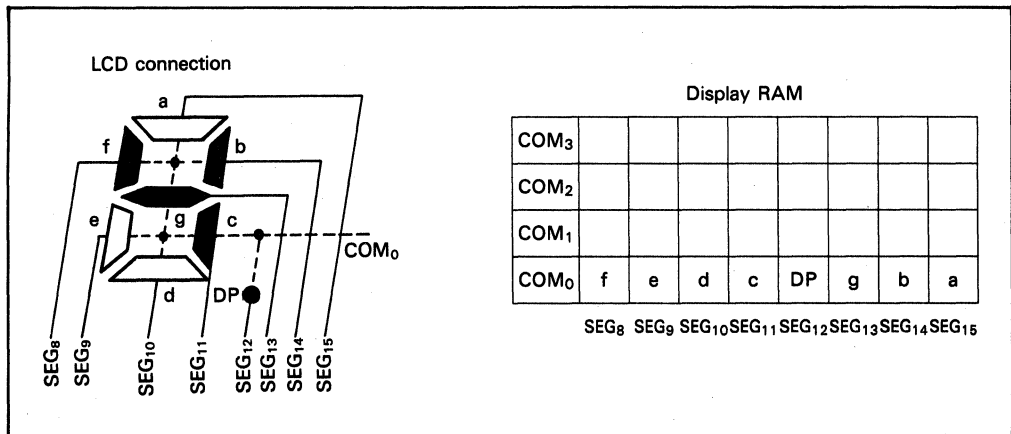

Figure 4 Example of Correspondence between LCD Connection and Display RAM (Static Drive, HD61604)
1. **Static Drive:** In static drive, only the column of COM₀ of display RAM is output. COM₁ to COM₃ are not displayed (figure 4).